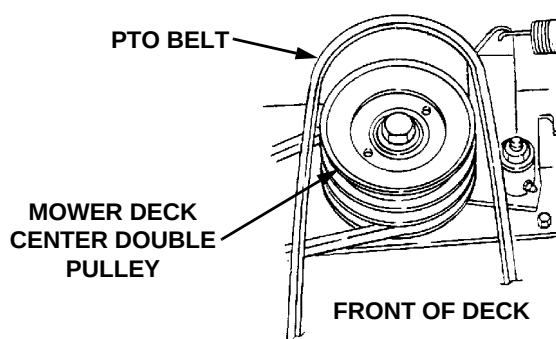
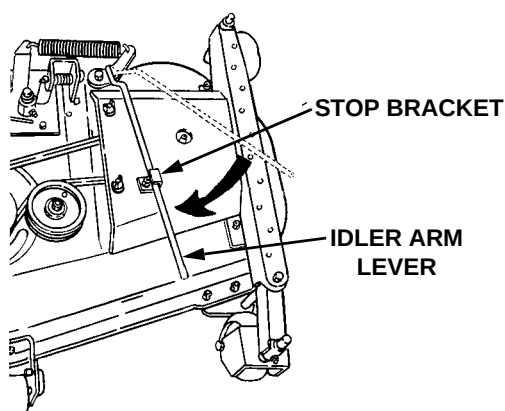

Figure 53
Figure 54
8. Remove the rearward end of the PTO belt from the upper pulley of the deck center double-pulley (Refer to Figure 53). Engage the deck idler arm lever back into its stop bracket (See Figure 54).